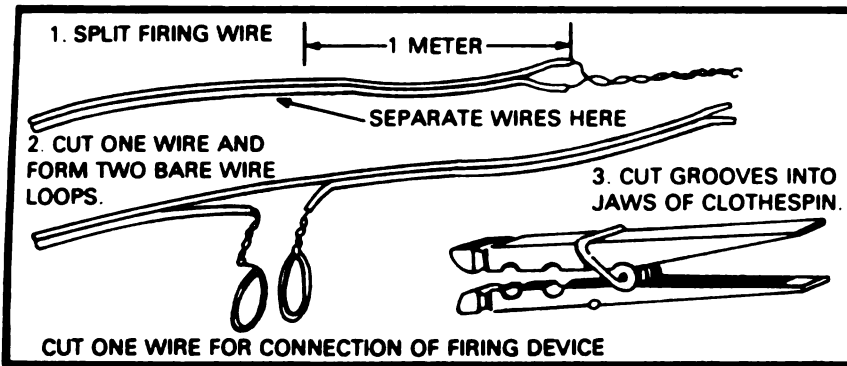

Figure 2
- a. Prepare wire as shown in figure 2.
- b. Prepare clothespin as shown in figure 2.